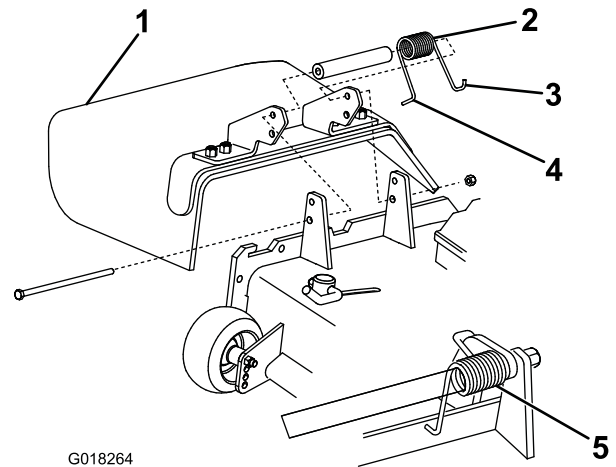

Figure 2
3. Place the right hand **J** hook end of the spring around the grass deflector (Figure 2).